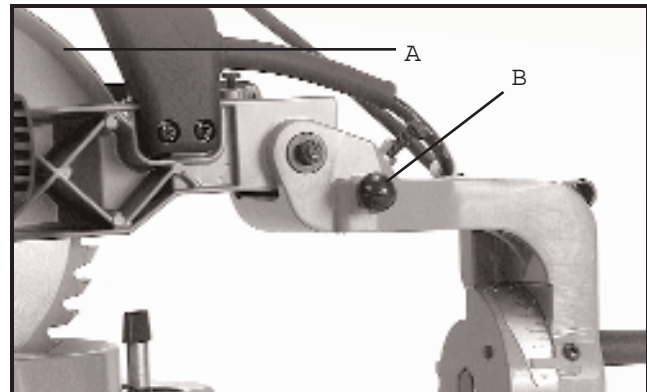
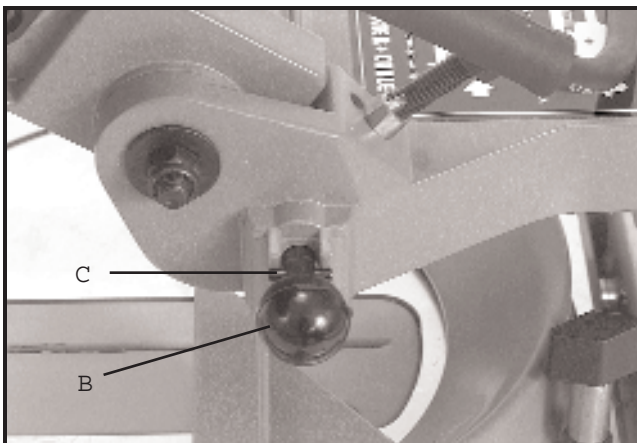

Fig. 7
Fig. 8
1. While holding the cuttinghead (A) Fig. 7, down, pull out and rotate cuttinghead lock knob (B) 90 degrees until pin (C) Fig. 8, is in the horizontal position as shown. The cuttinghead can then be raised.
3. **WARNING:** Cutterhead lock knob (B) Fig. 7, is designed to lock the cutterhead in the down position for only storage or carrying. Never operate saw with the cutterhead in the lock down position.